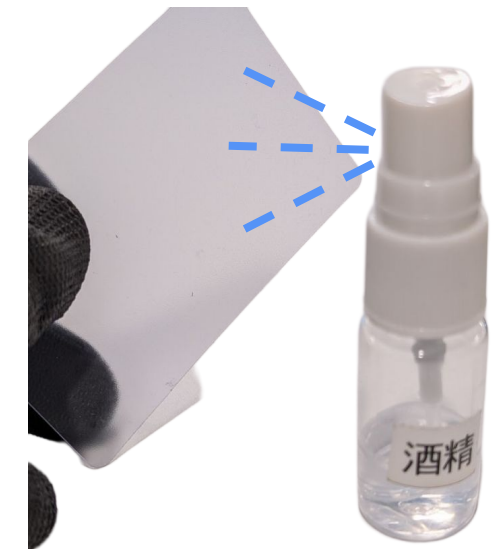

Fig 2
2. Spray IPA on the edges of the plastic opening card as shown in Fig 2.